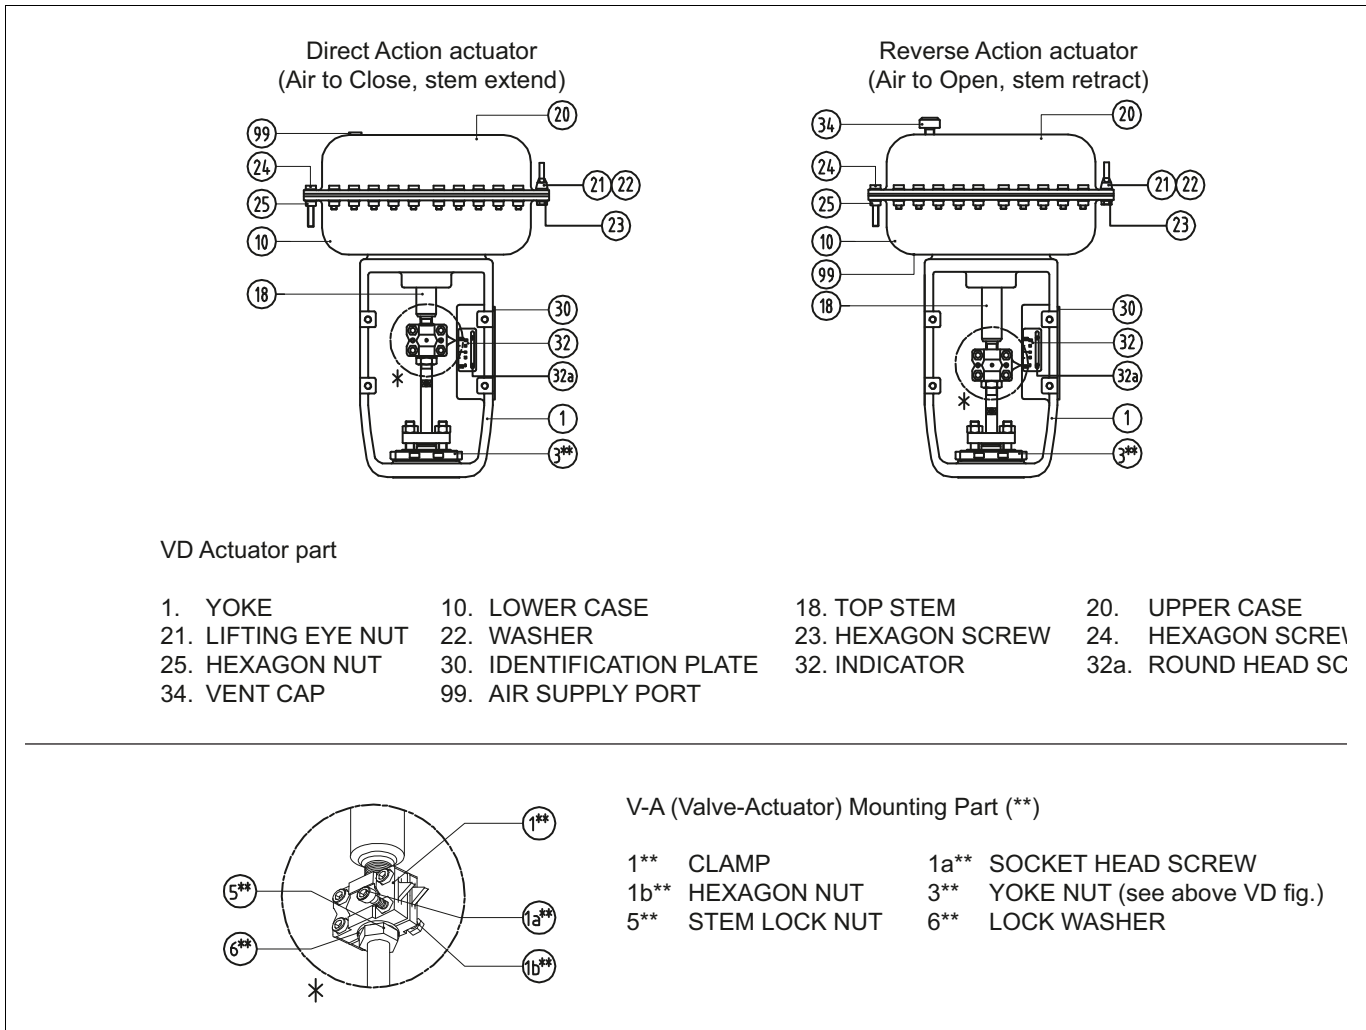

Fig. 12 VD Actuator
A. Actuator removal for Reverse <air to top seat close, stem retract> actuator (Fig. 12)
B. Actuator replacement (mounting) for Reverse <air to top seat close, stem retract> actuator (Fig. 12)
- Lift the top stem (18), using by specified air pressure.